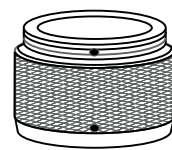
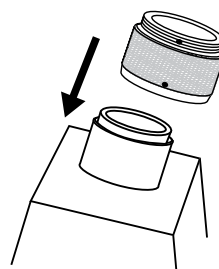

Figure 9-15
Figure 9-16
- ③ Fit the eyepiece (Figure 9-15) comes with the polarizing eyepiece on the refractometer (Figure 9-16), and tighten 4 screws.